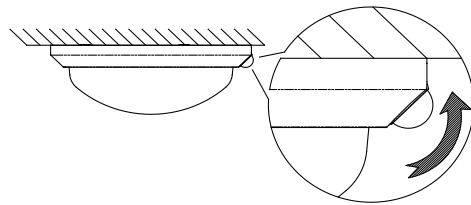

Fig. 4
- For ceiling mounting, the sensor's lens remaining at the normal position can get the maximum detection range. (Ref. to Fig.4)